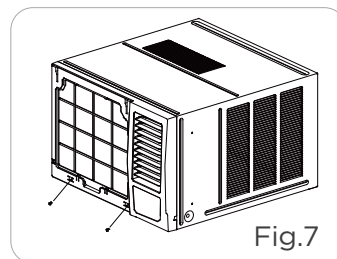

Fig.7
2. Press the both side and lower edge of the frame, and secure it with the two screws at the bottom of the frame. (See Fig.7).